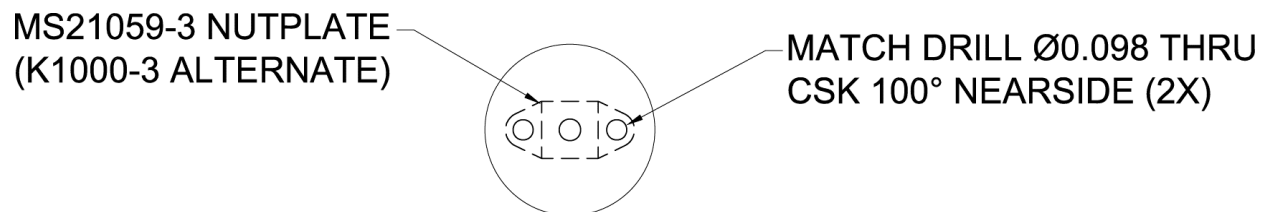

Figure B-15 Aligned Nut Plate And Disk
- Align one *stainless steel* nut plate MS21048-3 (or K1001-3) to each disk using the center hole as a guide. Match drill 0.098 holes to nut plate and countersink 100° on one side. Refer to Figure B-15.